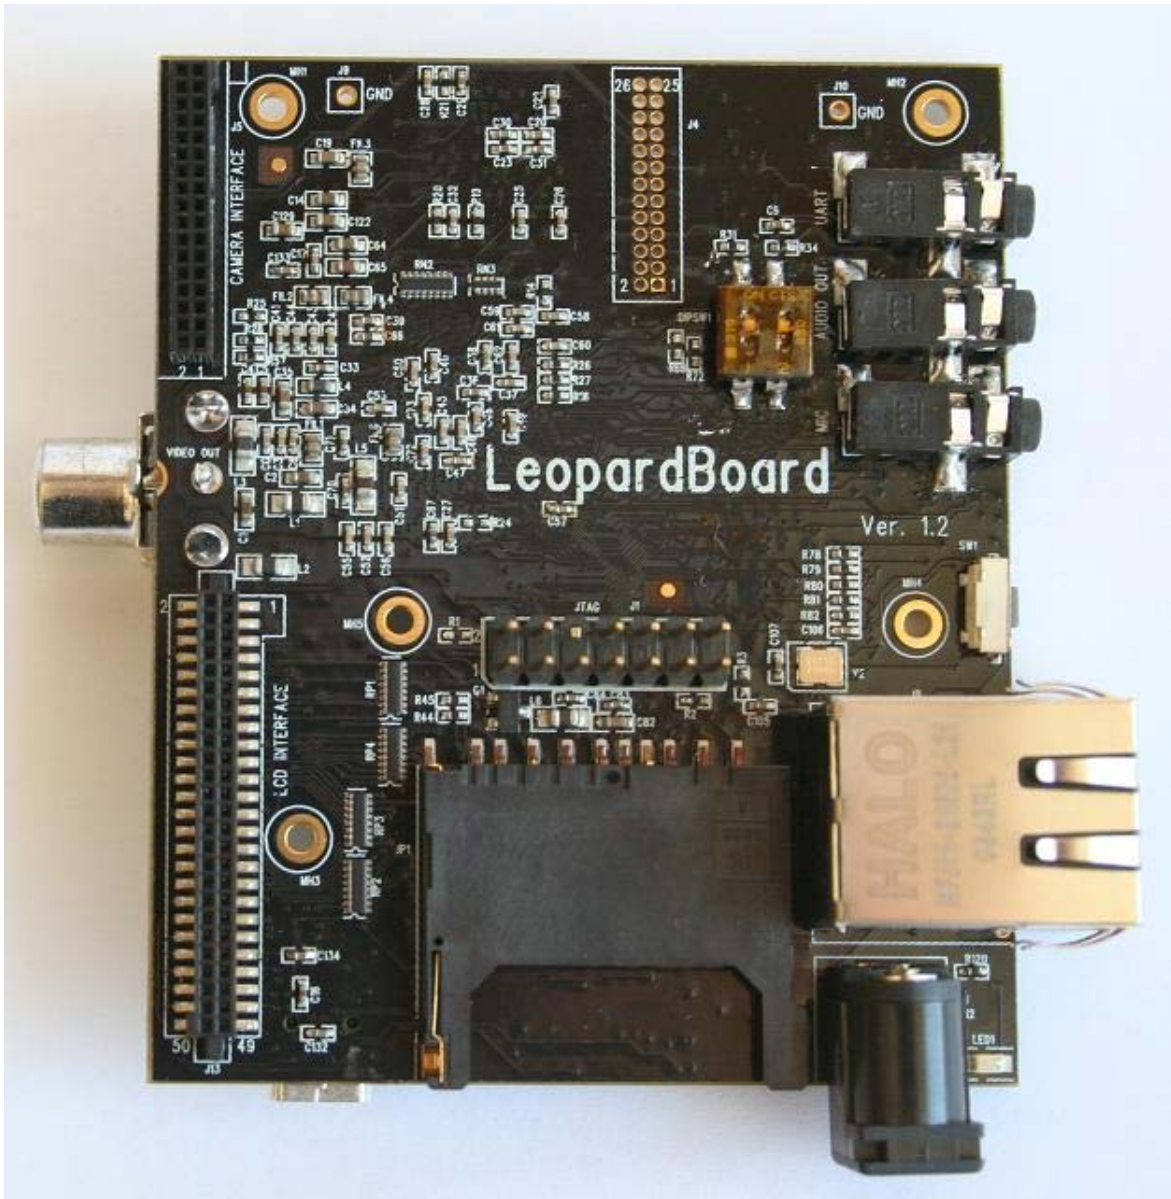

Figure 2. LeopardBoard
1.1 LeopardBoard, see Figure 2.